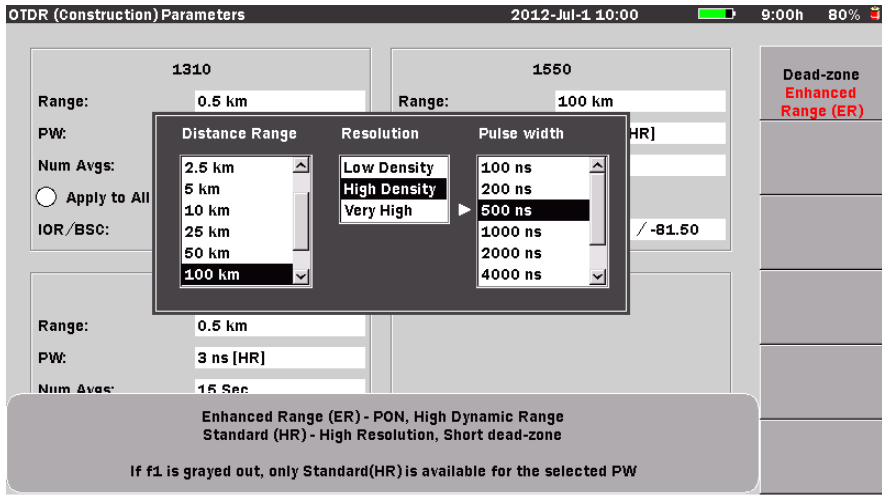

Figure 6-12: Dead-zone Mode Selecting screen
1. With the OTDR Parameters screen displayed, use the **Left/Right/Up/Down Arrow keys** (or the **Rotary knob**) to highlight the **Range** field or **PW** field for the for the first desired wavelength and then press the **Enter key** (or the **Rotary knob**). The Distance Range, Resolution, and Pulse width dialog box appears (see Figure 6-12 on page 6-34).